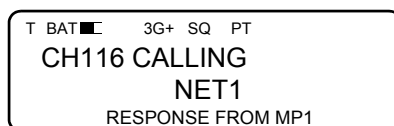

Figure 3-48. Net Call Screen
- e. If the call type is **MANUAL**, the AN/PRC-150(C) prompts the user for the channel number to place the call on.
- f. KDU displays call status. See Figure 3-48. When a response to the call is received from another net member, the text **RESPONSE FROM** and the name of the responding station will be displayed on the bottom line of the KDU.